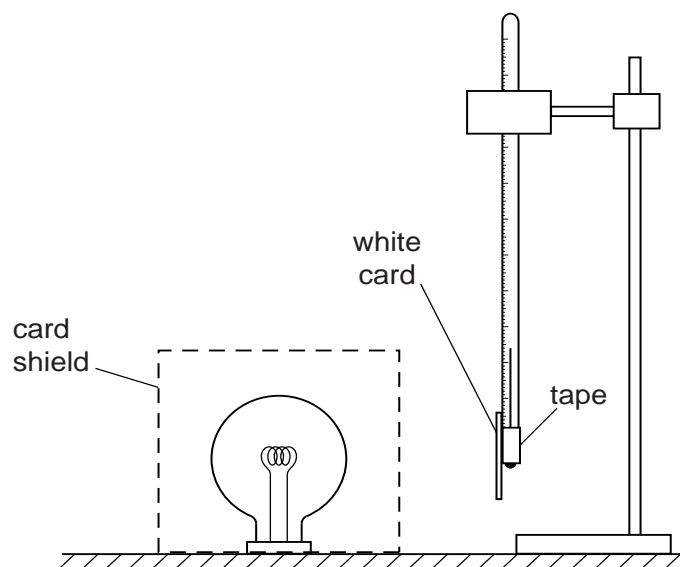

Fig. 2.1
3. The clamp, boss and stand should be set up with the thermometer clamped securely as shown in Fig. 2.1. Candidates should be able to read temperatures up to 80°C without removing the thermometer from the clamp. The bulb of the thermometer should be level with the filament of the lamp.